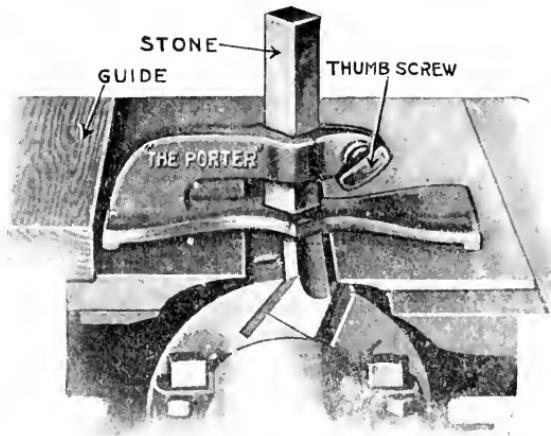

FIG. 11—JOINTING DEVICE
true, place a try square on the lack table so that the end of the blade projects out over the knife----- test in this manner for the entire length of both blades, and tighten very securely. Then joint, by using the device shown in Fig. 11.
which is the simplest operation on the circular saw (1) make sure that you have the rip saw and that it projects through the table only as far as necessary for the stock which you are going to rip. (2) Make sure that the fence is adjusted for the proper width. Use the scale on the top of the table which is shown in Fig. 11 for adjusting the fence. When you have it approximately adjusted tighten the clamp and then make the adjustment exact by means of